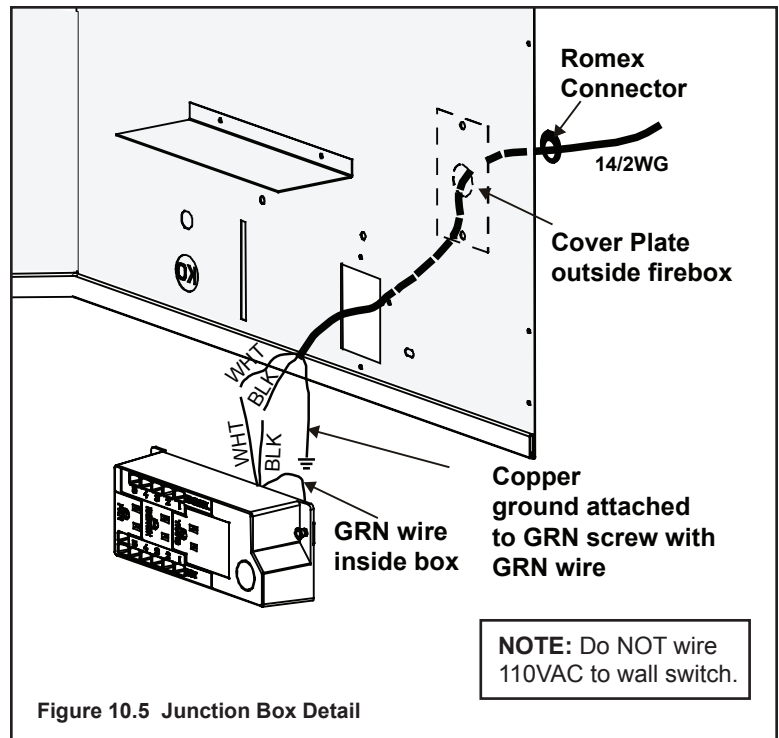

Figure 10.5 Junction Box Detail
- It is recommended that a 110 VAC junction box be installed for use with a fan or remote control. (See Figure 10.5 for junction box wiring).
This appliance requires a 110 VAC supply to the appliance junction box for operation. A wiring diagram is shown in Figure 10.5.
- Remove the screw attaching the junction box to the outer shell, rotate the junction box inward to disengage it from the outer shell (see Figure 10.5).